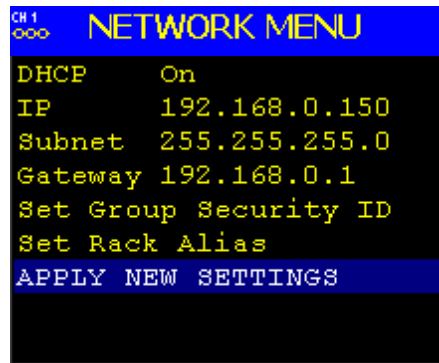

Figure 90: Network Menu, Apply New Settings Displayed
**Note:** Unlike other options, changes made within the Network Menu are not executed until the user clicks on the Apply New Settings parameter, located just below the Set Rack Alias field, shown in Figure 90. Apply New Settings does not display unless a change to any of the Ethernet parameters is detected.